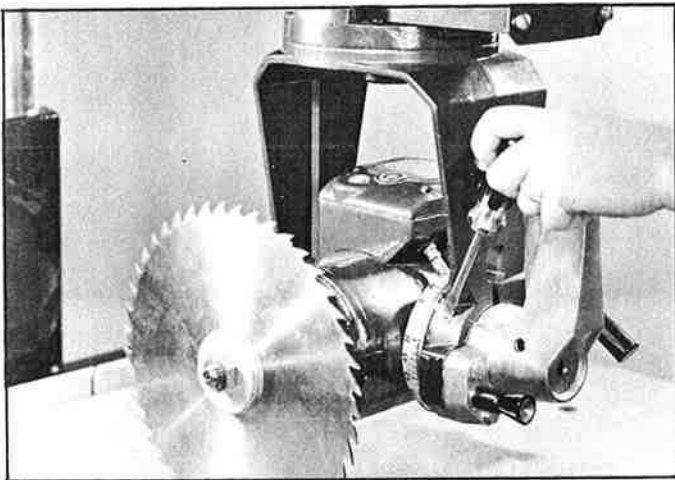

Fig. 25.
7. Set the pointer to the zero mark on the bevel scale, as shown in Fig. 25, and replace the blade guard.